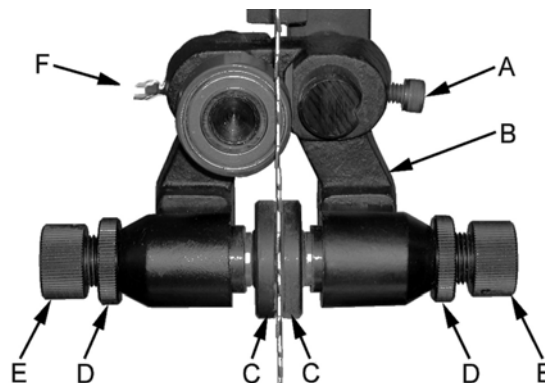

Figure 3
2. The blade guard has been removed in Figure 3 for photo purposes only.
3. Loosen the socket head cap screw (A, Fig. 3) and position the blade guide assembly (B, Fig. 3) so that the guides rest just behind the gullet of the blade teeth. Tighten the socket head cap screw.
4. Loosen lock nuts (D, Fig. 3).
5. Adjust guide knobs (E, Fig. 3) so guides (C, Fig. 3) rest lightly against the blade. Do not force the guides against the side of the blade. Tighten both lock nuts.
6. Adjust the blade support bearing so that it is 0.003" away from the back of the blade, about the thickness of a piece of paper. To make this adjustment loosen wing nut (F, Fig. 3) and slide the bearing and bearing post into position. Tighten wing nut.
Note: Blade support bearing should be adjusted so that the back edge of the blade overlaps the front face of the ball bearing by approximately 1/8". If adjustment is needed loosen wing nut (F, Fig. 3) and turn the bearing shaft. Tighten wing nut.